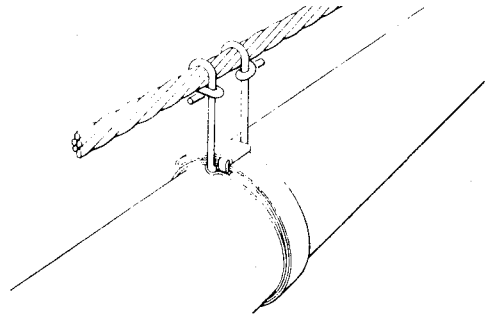

Fig. 20—Alternate Method of Attaching Wire Hanger
- 6.04 An alternate method of attaching the wire hanger to the strand requires the wires be bent around the strand and outside of the vertical portion of the wires as shown in Fig. 20.